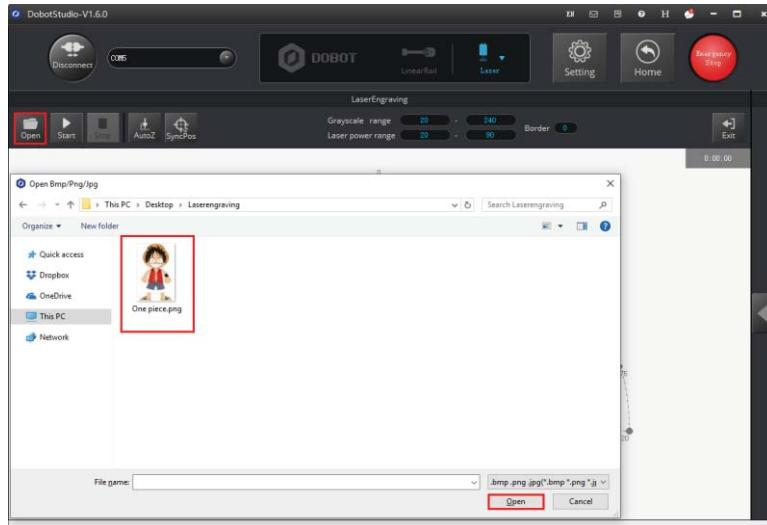

Figure 5.94 Import an image file
**Step 2** Click **Open** to import an image file such as BMP, JPEG, or PNG, as shown in Figure 5.94.